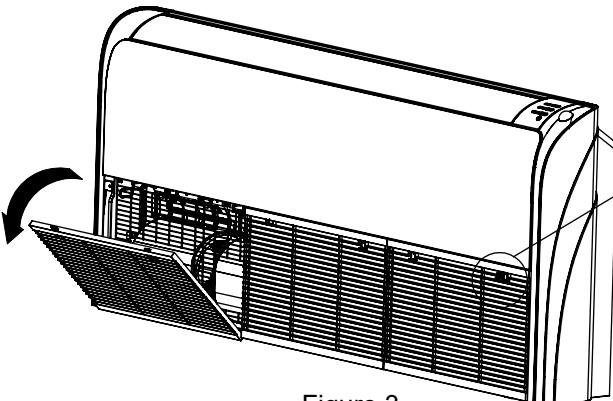

Figure 3
- (2) Turn into the intake grill according to the direction of the arrowhead.(Refer to Figure 3)